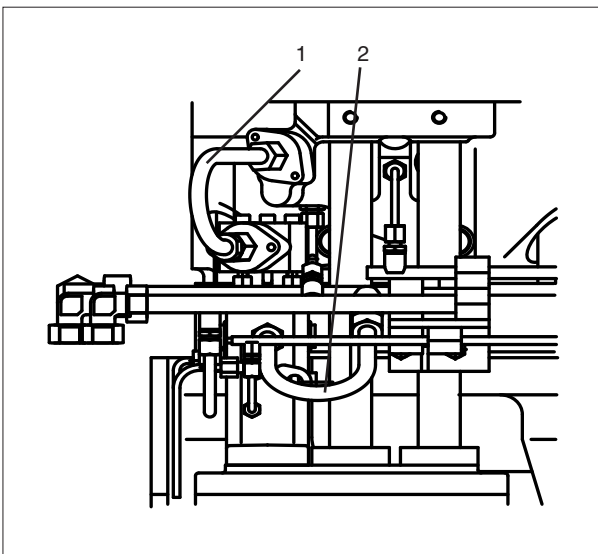

Fig 1 View from Control Side
1. Dismount the fuel injection pipe pos. 1 *fig 1* and the fuel inlet pipe pos 2.